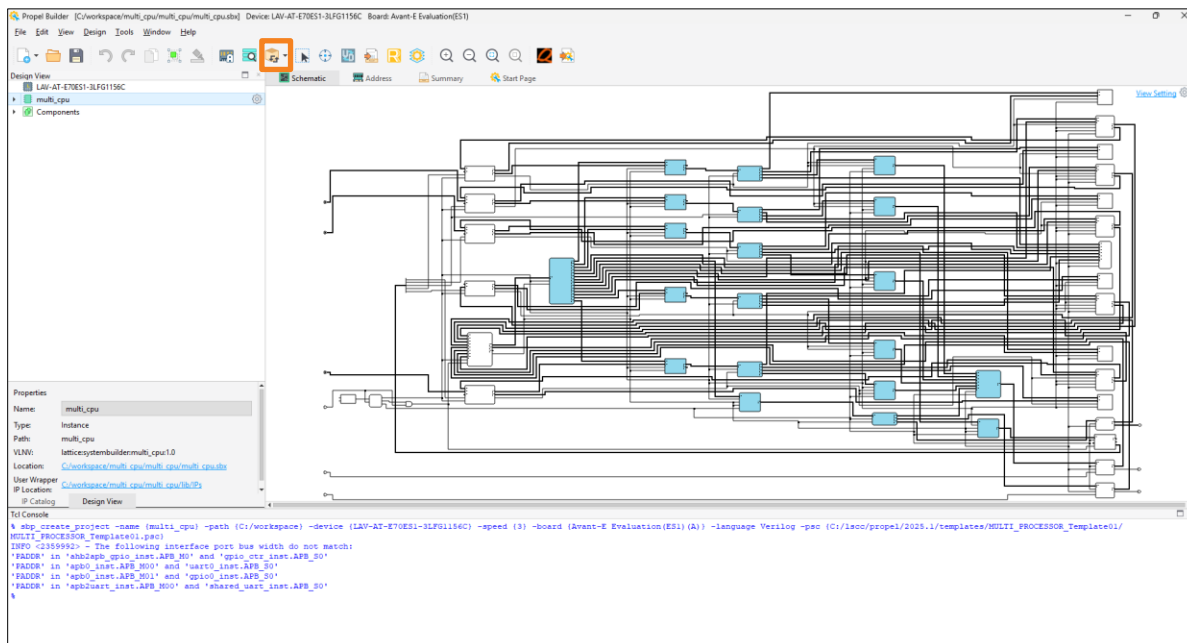

Figure 4.6. Lattice Propel Builder – Generate SoC Design
- b. Click the **Generate** button to build the SoC design (Figure 4.6).